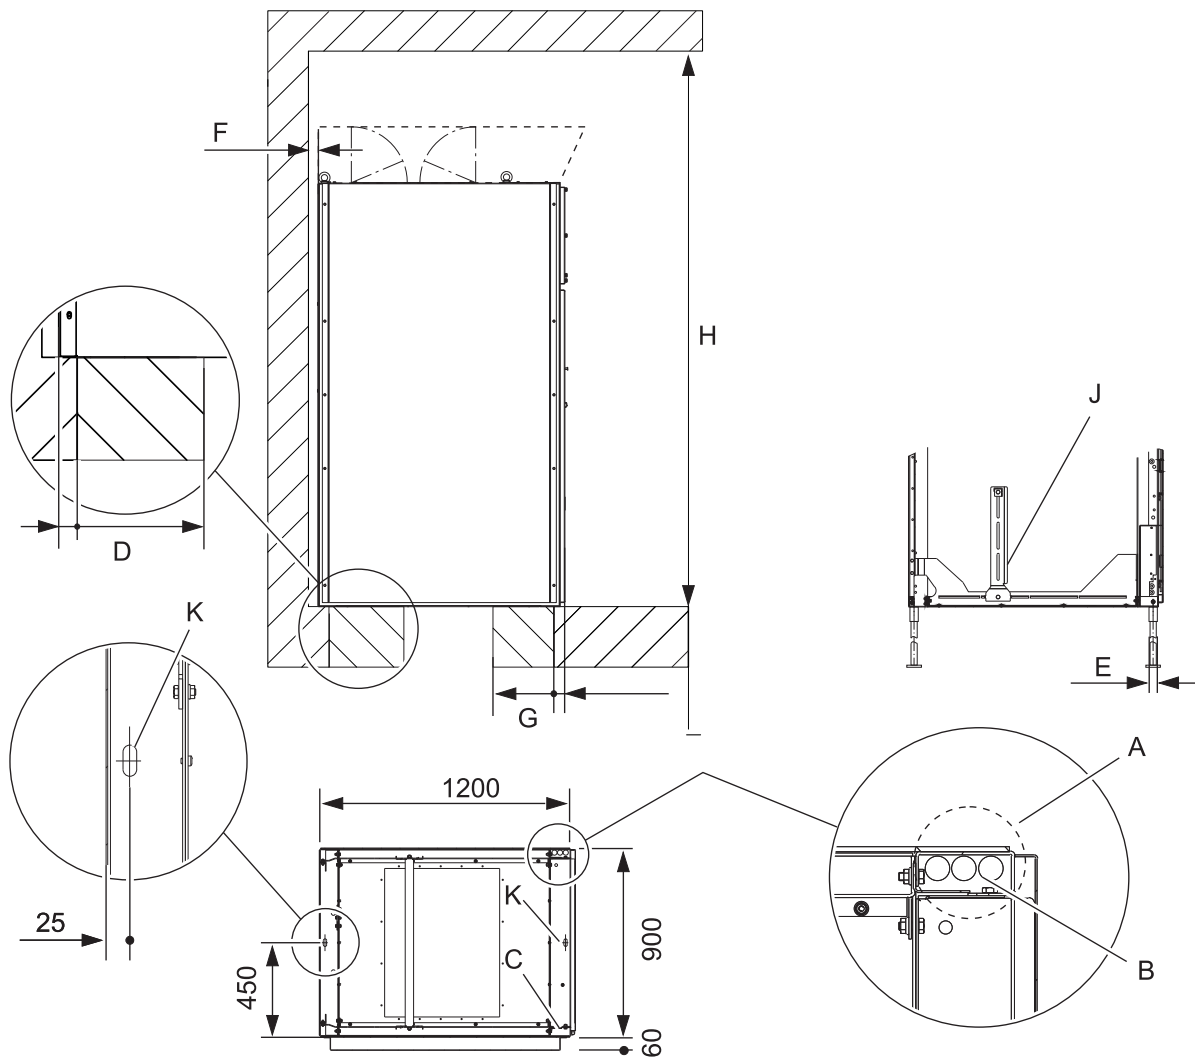

Fig. 15
- Fasten switch panels to the ground; here screw each switch panel to the ground at all attachment points (see attachment points (K), Fig. 15, 16 or 17, depending on type*)*